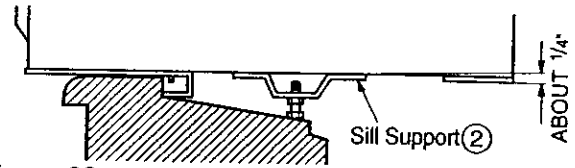

Figure 89
10. The cabinet should be installed with a very slight tilt (about 1/4") downward toward the outside (See Figure 89).